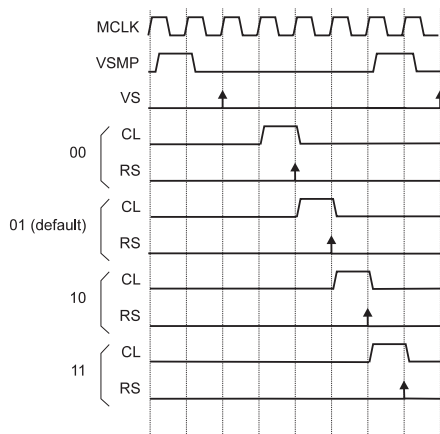
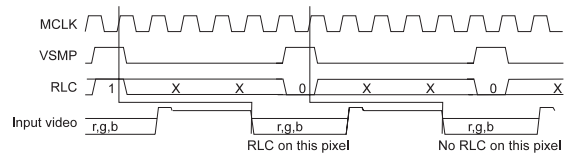

Figure 4: Reset Sample and Clamp Timing
Figure 6: RLC Timing
The position of the clamp relative to the video sample is programmable by CDSREF1-0 (see Table 7). By default, the reset sample occurs on the fourth MCLK rising edge after VSMP. The relative timing between the reset sample (RS) and video sample (CL) and video sample can be altered as shown in Figure 4.
A reset level clamp is activated if the RLC pin is high on an MCLK rising edge (Figure 6). By default this initiates an internal clamp pulse three MCLK pulses later (Figure 4: CL). The relationship between CL and RS is fixed. Therefore altering the RS position also alters the CL position (Figure 4). Table 7 shows the three possible voltages to which the reset level can be clamped.